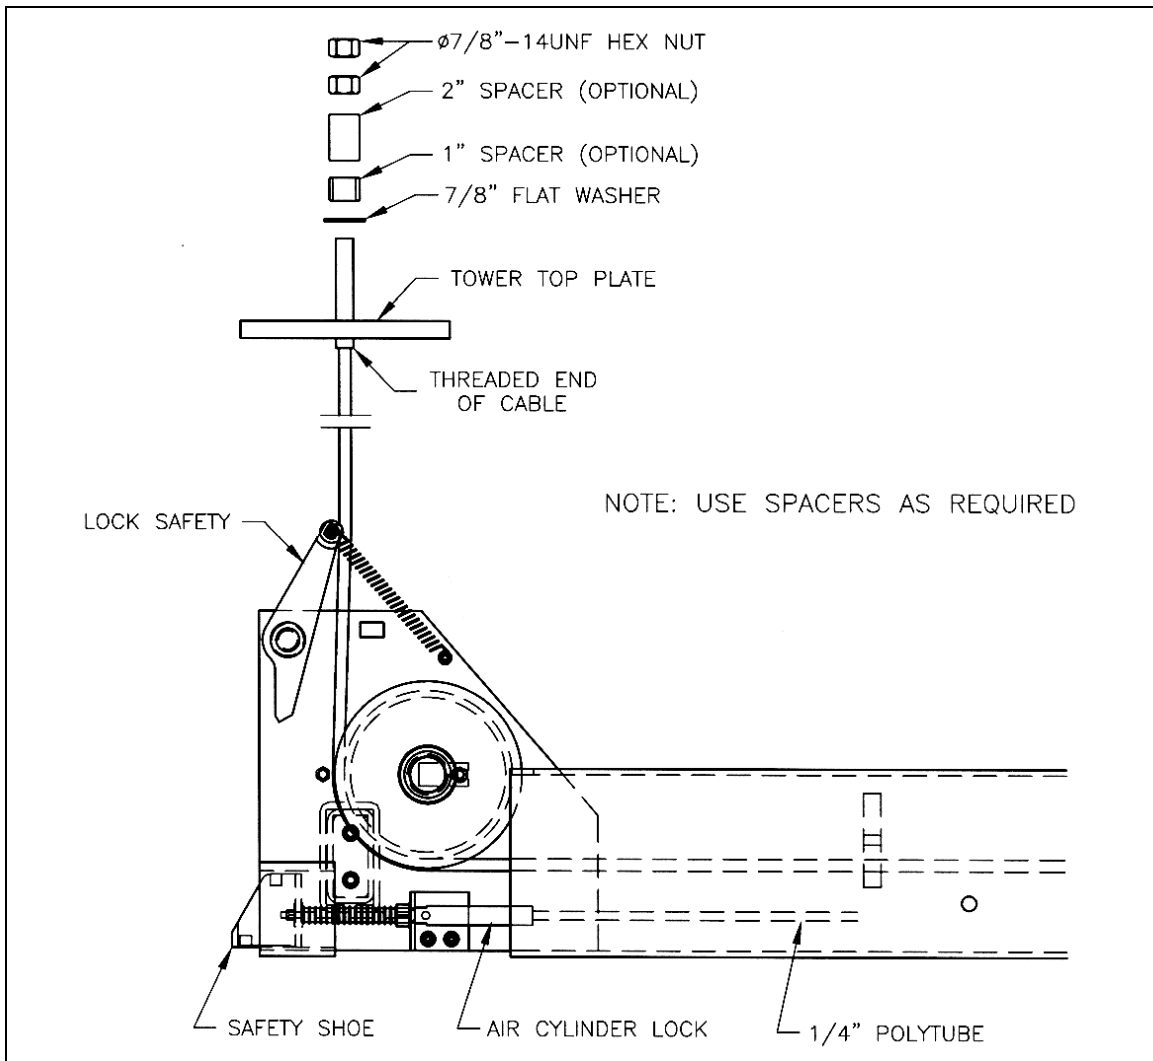

Figure 3. Cable routing diagram
- Run each cable through the crossmembers and out past the safety lock (see Figure 3).
- Replace all of the crossmember pulleys, being sure to lock the sheave pins with the 3/8"-16UNC x 1"LG Hex HD Bolt. Be sure to replace pulleys and spacers in the same arrangement as they were removed (see Figure 3 and the Parts Manual, Front Crossmember Assembly).
- Install the threaded stud end of the cables to the tower top plates using the 7/8" Flat Washer, and two (2) 7/8"-14UNF Hex Nuts with Cable Spacers as required (see Figure 3). The Hex Nuts, Washers and Cable Spacers are located in polybag "A" (cables).